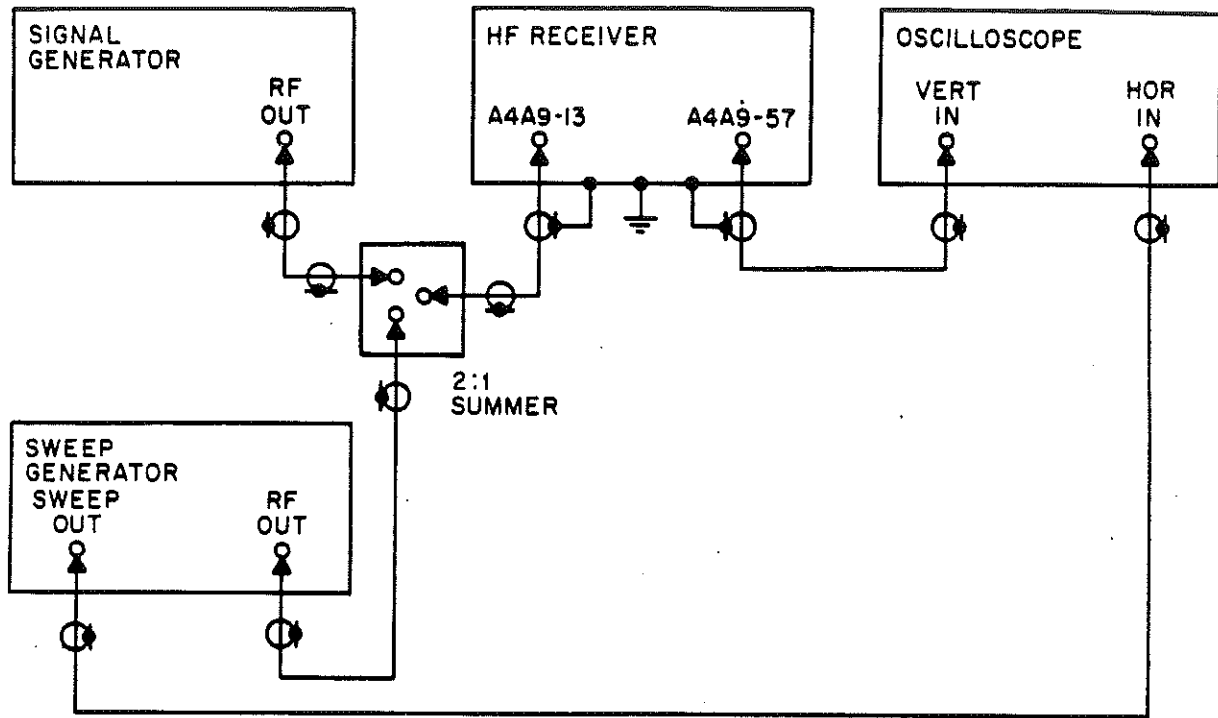

Figure 4-7. FM Discriminator Alignment, Test Setup
4. Connect the test equipment as shown in Figure 4-7.